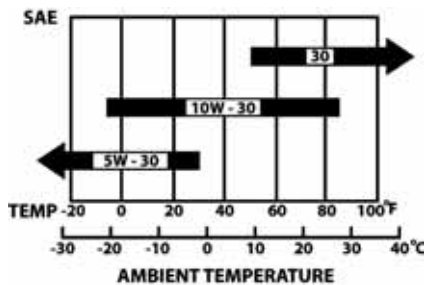

FIGURE 17: Recommended Oil Viscosity
SAE 10W-30 is recommended for general temperature use. Refer to Figure 17 for information on other viscosities that may be used. Other viscosities shown in chart may be used when average temperature in your area is within indicated range.
<ul style="list-style-type: none"> <input type="checkbox"/> Socket wrench with 12 mm socket <input type="checkbox"/> Oil drain pan or other container suitable for holding engine oil <input type="checkbox"/> Clean cloth <input type="checkbox"/> Unused engine oil (SAE type indicated in Figure 17)
12. Pour new (unused) engine oil into oil fill hole. (See Figure 17 for recommended oil type). Do not overfill.